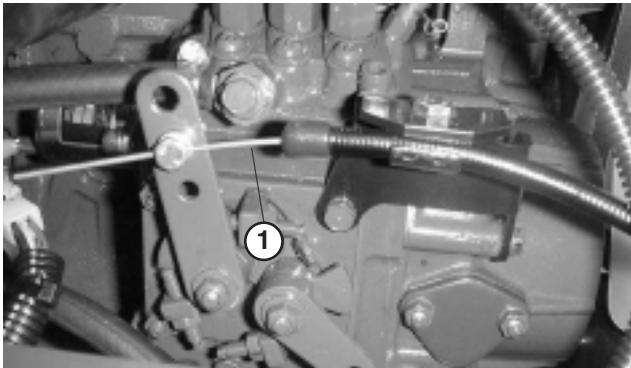

Figure 37
1. Adjust throttle cable (Fig. 37) so governor lever on engine contacts low and high speed set bolts before throttle lever contacts slot in control panel.